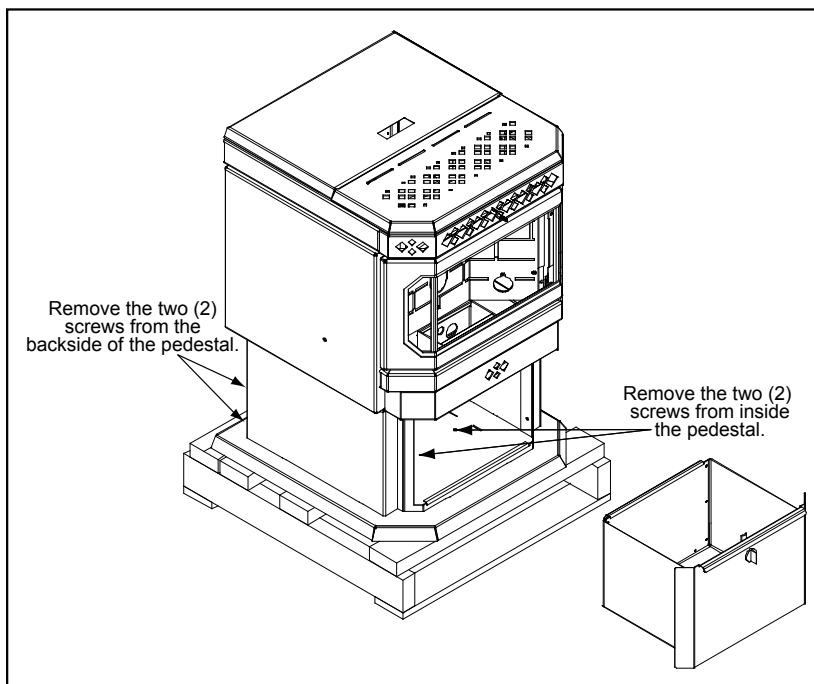

Figure 6: Screws to take out to remove freestanding unit from pallet.
**FREESTANDING:** To remove your new freestanding stove from its pallet, remove the ash pan and remove the two (2) wood screws inside this area as shown (see Figure 6). Also remove the two (2) wood screws on the back of the pedestal. Remove the unit from the pallet and replace the ash pan.